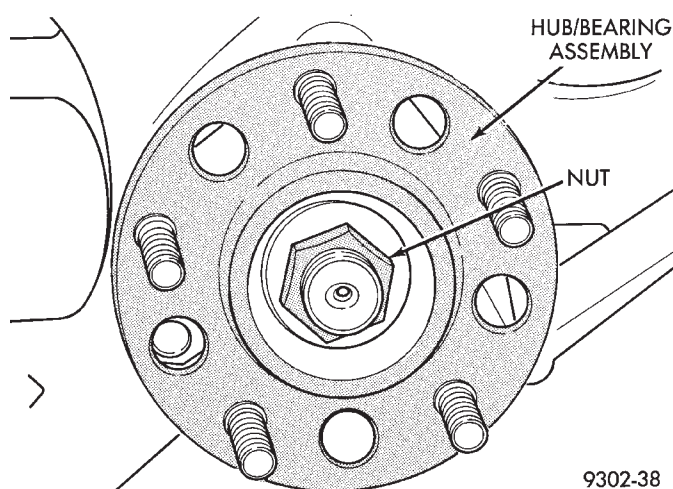

Fig. 5 Hub And Bearing To Stub Axle Retaining Nut
(7) Remove the hub and bearing to stub axle retaining nut (Fig. 5).